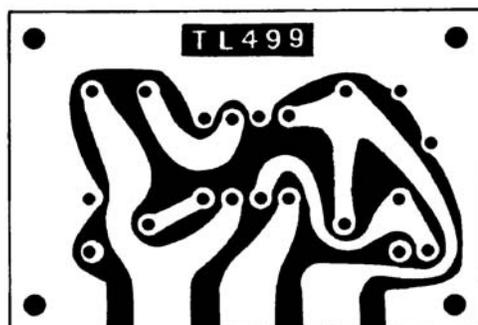

Figure 33. Recommended Board-Pattern Layout
Because high-frequency peak current flows during the switching operation, the external surrounding parts (C,  $R_{E1}$ ,  $R_{E2}$ , etc.) (see Figure 2) must be arranged as close to the IC as possible and mounted to a circuit with a large ground pattern and thick lead width (see Figure 33). Use a large ground plane to provide good heat dissipation.
- Keep the IC, coil, and capacitor wires as short as possible, and use a large ground pattern (use the recommended pattern in Figure 33).
- Ensure that the path capacitor (C) between pins 2 and 8 is securely inserted and, also, insert a capacitor on the switching input side (pin 3).